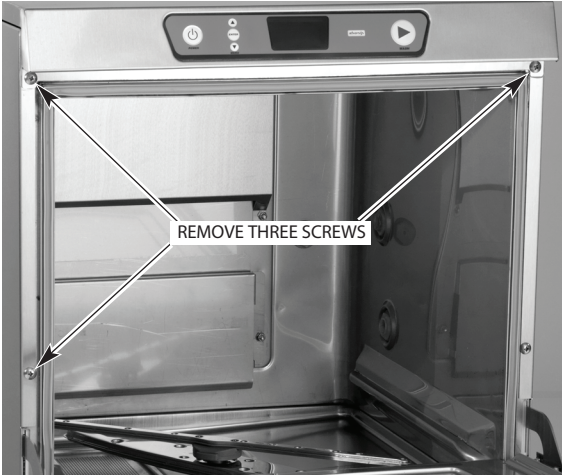

Fig. 2
- 2. Open door of dishwasher and remove the two left screws and the top right screw (Fig. 2). Pull top of unit forward approximately 1” and remove the left side panel.